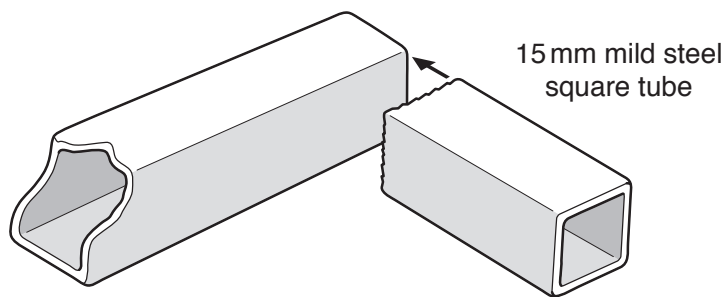

Fig. 3
- 7 Fig. 3 shows two pieces of mild steel that are to be brazed together.